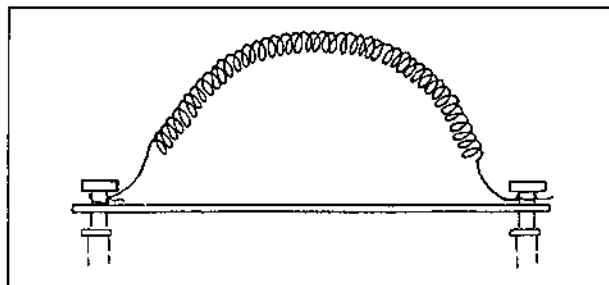

Fig. 3 Fastening the wire filament to the wire winding
5. Fasten the filament to the screw clamping the winding board, as shown in fig. 3.